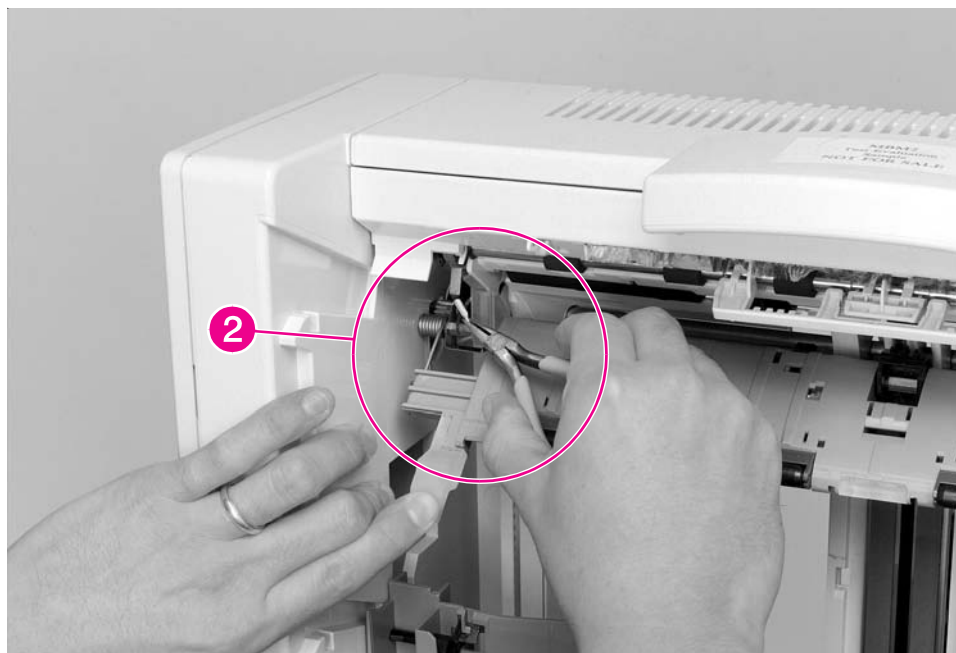

Figure 6-157 8-bin Mailbox Flipper Assembly (2 of 3)
- 4** Hold down the Jam Access Door while unplugging the ground wire that runs from the Input Paper Guide to the Flipper Motor (Figure 6-157, callout 2).
- 1 Hold down the Jam Access Door to reconnect the ground wire to the Flipper Motor (Figure 6-157, callout 2).